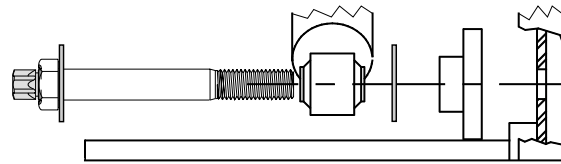

Figure 2. Assemble the shock mounting components
5. Insert the shear-type shock bolt through the hardened washer, shock, hardened washer, spacer block and into the hole in the suspension beam (Figure 2).